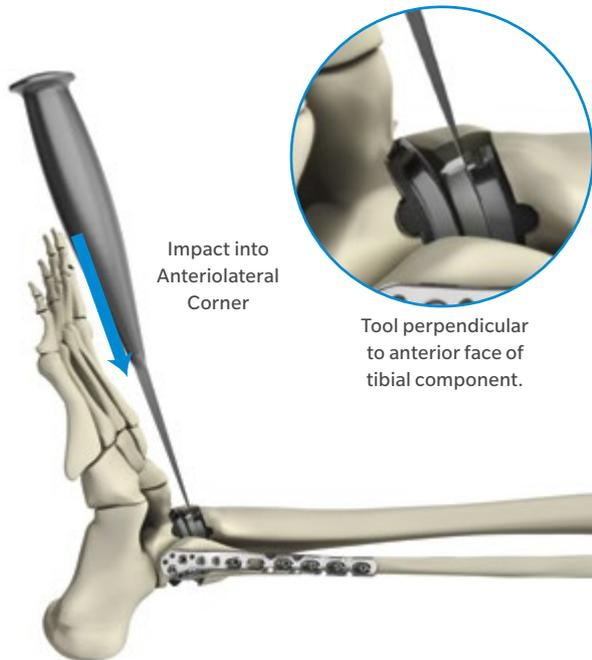

Fig. 101
- Insert the Osteotome into the anteriolateral face of the Tibial Implant, between the Tibial Base and Poly Insert (Fig. 101).